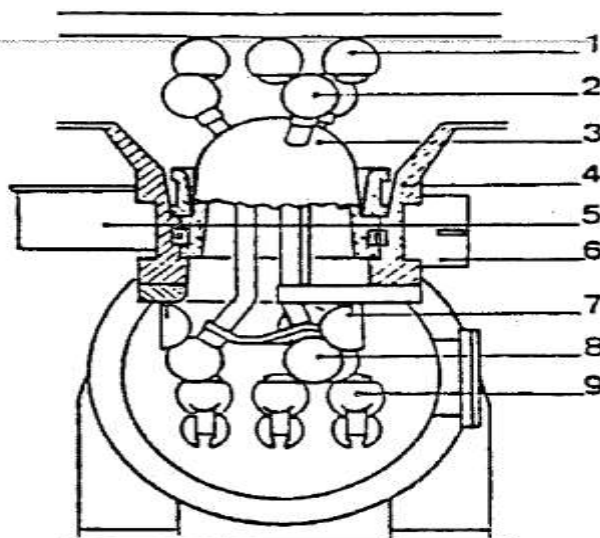

Fig. 2.2.3 Section of the isolator.
2.2.2.2 Isolating mechanism (see Fig. 2.2.3)